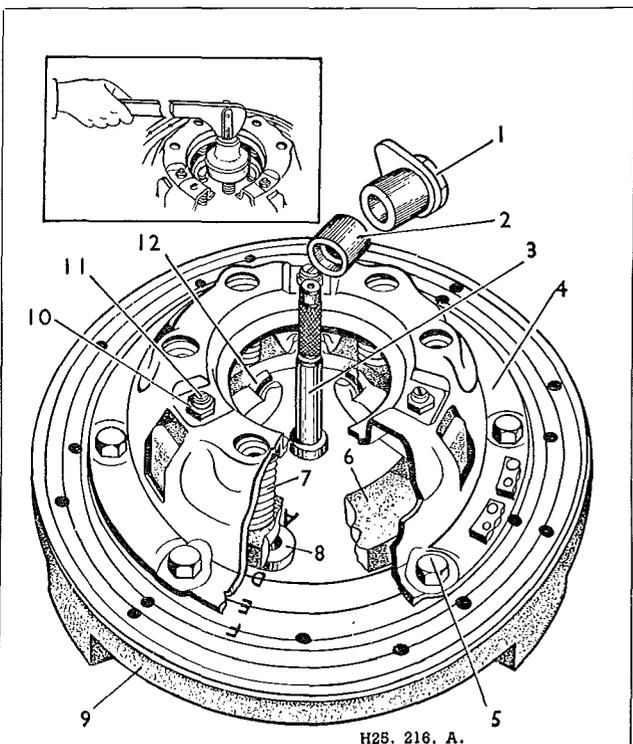

Fig. 6. Clutch assembly tool. 18G 99.
With a  $7\frac{1}{4}$ -in. (18.415 cm.) clutch, select three spacing washers (2) and place them over the code letter (B) on the base plate. (See Fig. 6.)
Replace the height finger and pillar by the clutch actuating mechanism (see inset Fig. 6) and actuate the clutch several times by operating the handle. This will enable the parts to settle down on their knife-edges. Replace the height finger and distance piece and re-adjust the height of the release levers. Finally repeat the procedure to make quite sure the release levers are seating properly and gauge again.